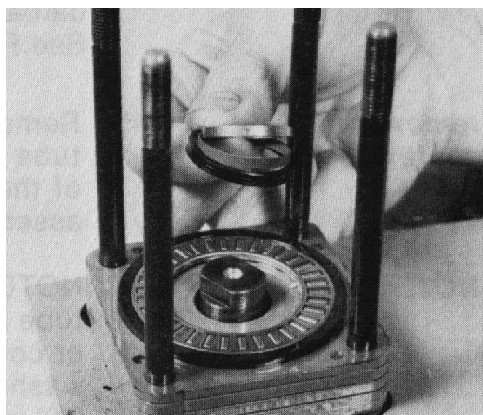

Figure 54
40. Remove the face seal, back-up ring, and face seal spacer from the upper cover plate (Fig. 54). Discard the face seal and back-up ring. Keep the metal spacer.